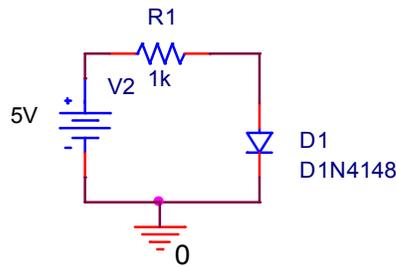

Figure A-6.
- Modify your PSpice schematic by replacing Ra2 with D1, a D1N4148 diode, as shown in Figure A-6. You will find this diode in the parts list. It is in the EVAL library. In this diagram, Ra1 has been replaced with R1. This was done just for convenience.